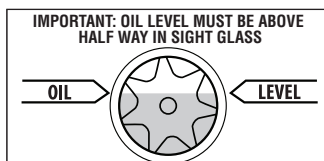

Figure 2
Step 1: Slowly add oil until level rises to the top of the oil level line. (**Figure 2**)
Step 4: Close oil drain valve on pump. Remove oil fill plug and fill to top of oil level line with BLACK GOLD Pump Oil (**Figure 2**). Replace oil fill plug.